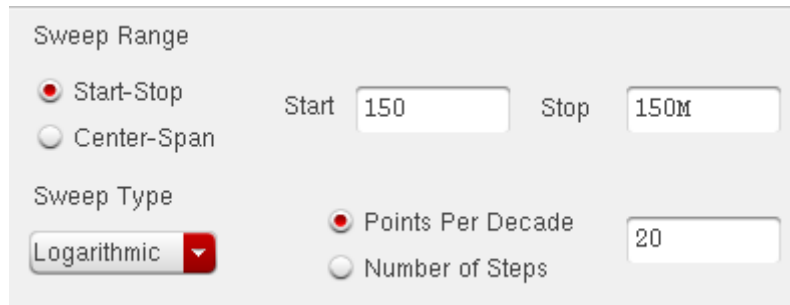

Figure 8.7: Sweep range for AC analysis
- (b) In CIW, choose **ac** analysis, select sweep variable as **Frequency**, and mirror the settings shown in Fig.8.7 for specifying sweep parameters.
- In CIW, choose **ac analysis**, select sweep variable as **Frequency**, and mirror the settings shown in Fig.8.7 for specifying sweep parameters.